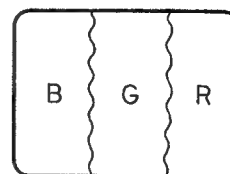

Fig. 3-3.
7. Adjust the purity magnet control to centre the vertical green band on the screen as shown in Fig. 3-3.